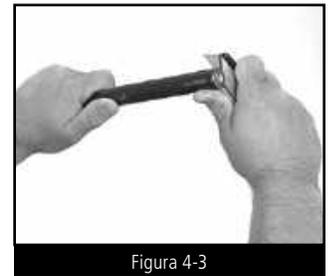

Figura 4-3
PASO 2 CORTE DE ENCAMISADO (FIGURA 4-3, FIGURA 4-4)